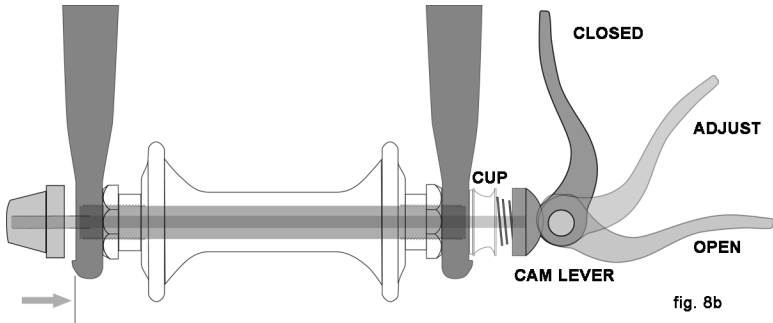
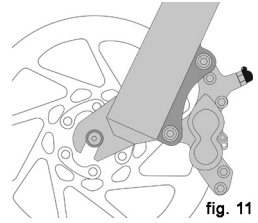
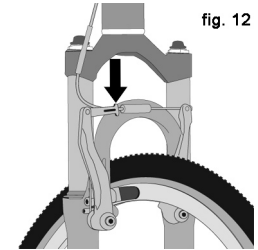

fig. 8b
fig. 11
fig. 12
There are currently two types of over-center cam wheel retention mechanisms: the traditional over-center cam (fig. 8a) and the cam-and-cup system (fig. 8b). Both use an over-center cam action to clamp the bike's wheel in place. Your bicycle may have a cam-and-cup front wheel retention system and a traditional rear wheel cam action system.
b. Adjusting the cam-and-cup mechanism (fig. 8b)
(1) If your bike has rim brakes, disengage the brake's quick-release mechanism to increase the clearance between the tire and the brake pads (See Section 4.C fig. 11 through 15).
(3) If your front fork has a clip-on type secondary retention device, disengage it and go to step (4). If your front fork has an integral secondary retention device, and a traditional cam action system (fig. 8a) loosen the tension adjusting nut enough to allow removing the wheel from the dropouts. If your front wheel uses a cam-and-cup system, (fig. 8b) squeeze the cup and cam lever together while removing the wheel. No rotation of any part is necessary with the cam-and-cup system.
(4) You may need to tap the top of the wheel with the palm of your hand to release the wheel from the front fork.
(1) If your bike has cam action front wheel retention, move the cam lever so that it curves away from the wheel (fig. 8b). This is the OPEN position. If your bike has through bolt or bolt-on front wheel retention, go to the next step.
(3) If you have a traditional cam action mechanism: holding the cam lever in the ADJUST position with your right hand, tighten the tension adjusting nut with your left hand until it is finger tight against the fork dropout (fig. 8a). If you have a cam-and-cup system: the nut and cup (fig. 8b) will have snapped into the recessed area of the fork dropouts and no adjustment should be required.
(4) While pushing the wheel firmly to the top of the slots in the fork dropouts, and at the same time centering the wheel rim in the fork:
(2) If your bike has rim brakes, disengage the brake's quick-release mechanism to increase the clearance between the wheel rim and the brake pads (see Section 4.C, figs. 11 through 15).
(3) On a derailleur gear system, pull the derailleur body back with your right hand.
(4) With a cam action mechanism, move the quick-release lever to the OPEN position (fig. 8b). With a through bolt or bolt on mechanism, loosen the fastener(s) with an appropriate wrench, lock lever or integral lever; then push the wheel forward far enough to be able to remove the chain from the rear sprocket.
(5) Lift the rear wheel off the ground a few inches and remove it from the rear dropouts.
- 3. Some bicycle brakes, such as disc brakes (fig. 11) and linear-pull brakes (fig. 12), are extremely powerful. Take extra care in becoming familiar with these brakes and exercise particular care when using them.**
Most rim brakes have some form of quick-release mechanism to allow the brake pads to clear the tire when a wheel is removed or reinstalled. When the brake quick release is in the open position, the brakes are inoperative. Ask your dealer to make sure that you understand the way the brake quick release works on your bike (see figs. 12, 13, 14 & 15) and check each time to make sure both brakes work correctly before you get on the bike.